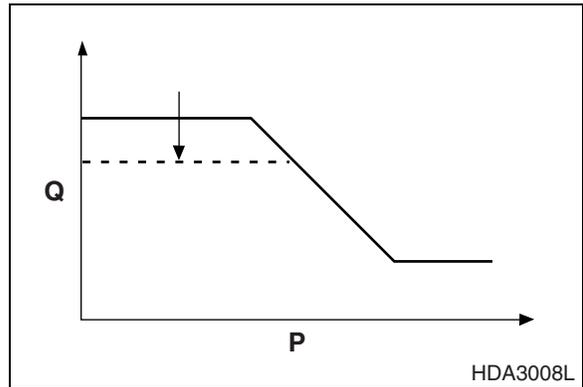

Figure 15
The adjusting screw (1, Figure 16) affects the delivery rate (Q) of the pump. Tightening the adjusting screw decreases the maximum cut flow (as shown in Figure 15) while backing out the screw increases cut flow delivery rate.